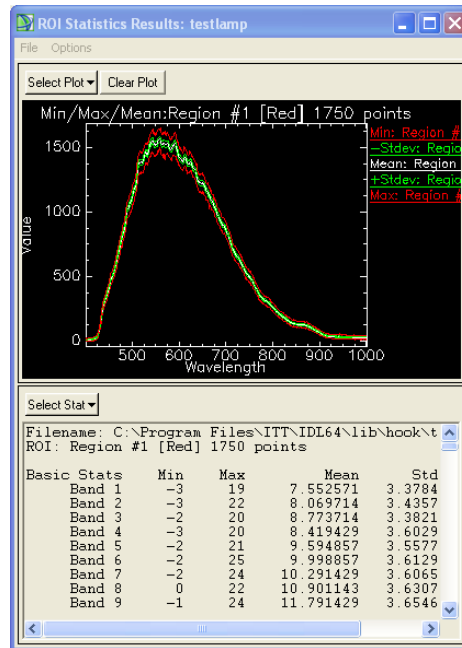

Figure 2. Spectrum from lamp recording in ROI Statistics Results
- A plot of the lamp spectrum appears in the ROI Statistical Results window (see Figure 2). Right click and select Plot Key. The white curve labeled Mean: Region is the spectrum of the lamp that you will use: